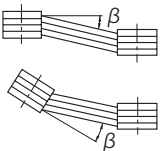

Figure 5-4
(3) When using a V belt
- The parallelism, eccentricity β of the two pulleys should be within $20'$. (See Figure 5-4)